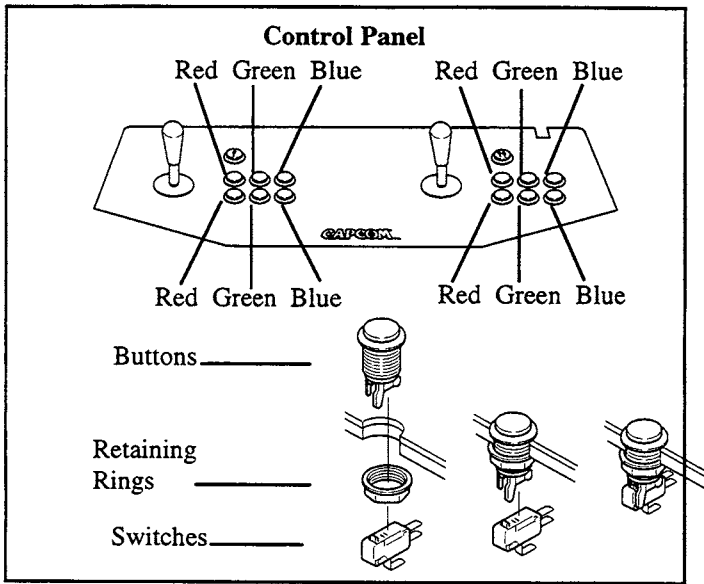

FIGURE 2
14. Install all buttons and retaining rings on the control panel as shown in Figure 2. Install two RED buttons to the immediate right of each joystick, install two GREEN buttons to the right of the red ones, and install two BLUE buttons to the right of the green ones.
16. Install the switches on the buttons as shown in Figure 2. Orient the switches so that when a button is pressed, the red contact on the switch is depressed.